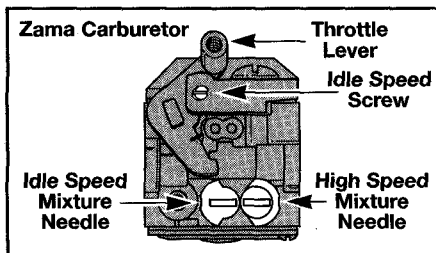

Fig. 35
- b. For Zama carburetors: Back the idle speed screw (Fig. 35) **out, counterclockwise**, until it does not contact the throttle lever. Then turn the screw **in, clockwise**, until it just begins to move the throttle lever, then continue turning *1-1/2 turns*.